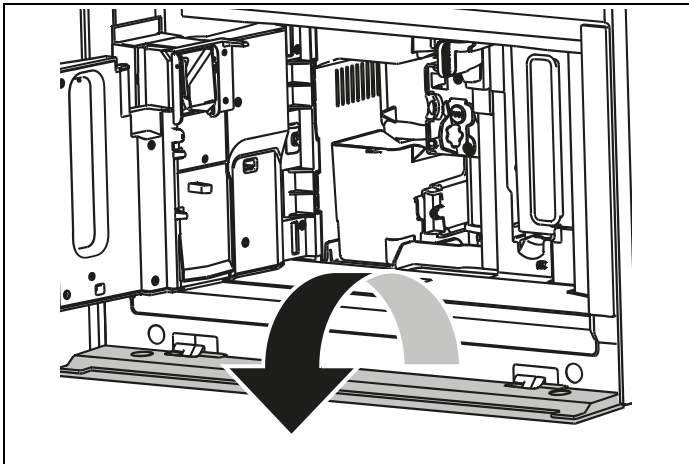
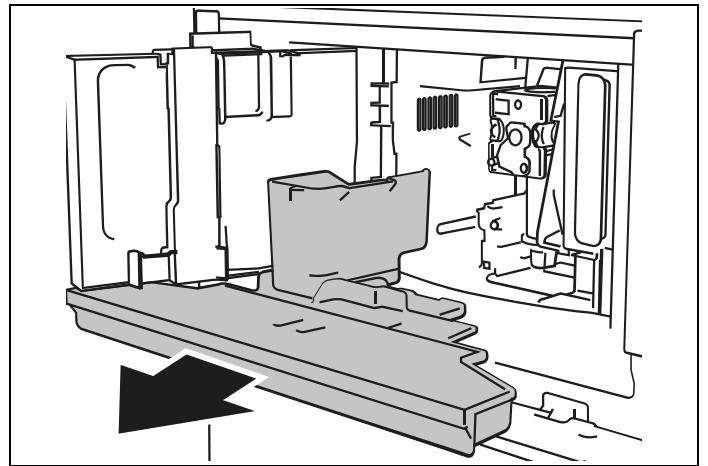

Fig. 42
Fig. 43
1) Open the bottom door by rotating it downwards (Fig. 42).
3) Remove the drip tray (A14) (Fig. 43), empty and clean it.
- Open the door (Fig. 42). Remove the drip tray and coffee grounds container (**A4**) (Fig. 43);
- 3) Remove the drip tray and waste coffee container (Fig. 43).
- **Empty grounds container** (Fig. 43) : remove, empty and replace the drip tray **(A14)** and the ground container **(A4)**. Press \succ NEXT;